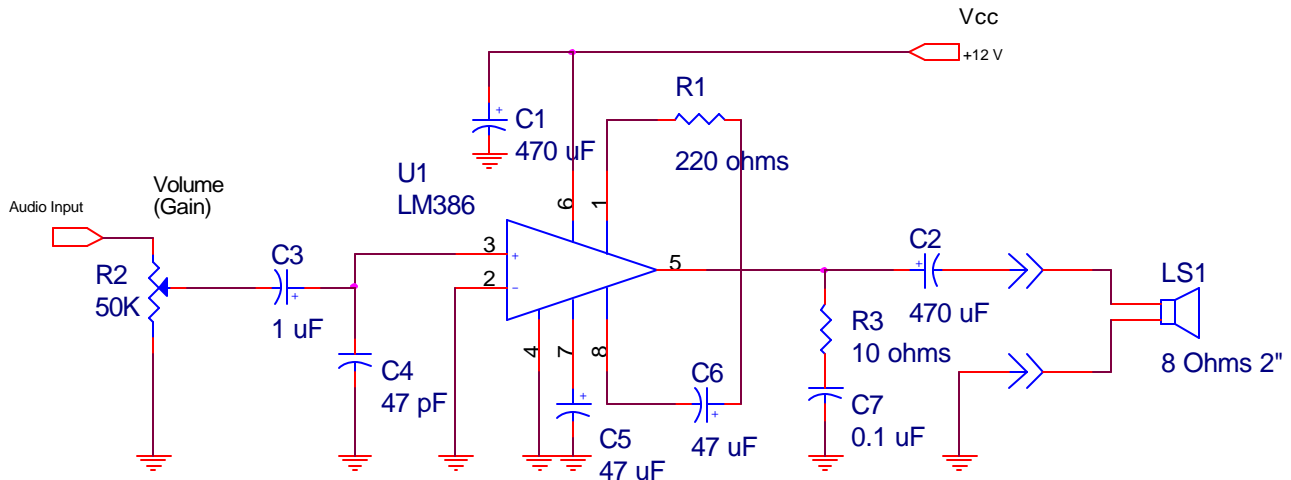

Figure 1: Audio Monitor Using the LM386
Figure 1 is the audio amplifier circuit. The LM386 IC audio amplifier chip does all the work!
1. Build the circuit of Figure 1. Note the following:
1. What component in the circuit of Figure 1 contains the active amplifier circuitry?